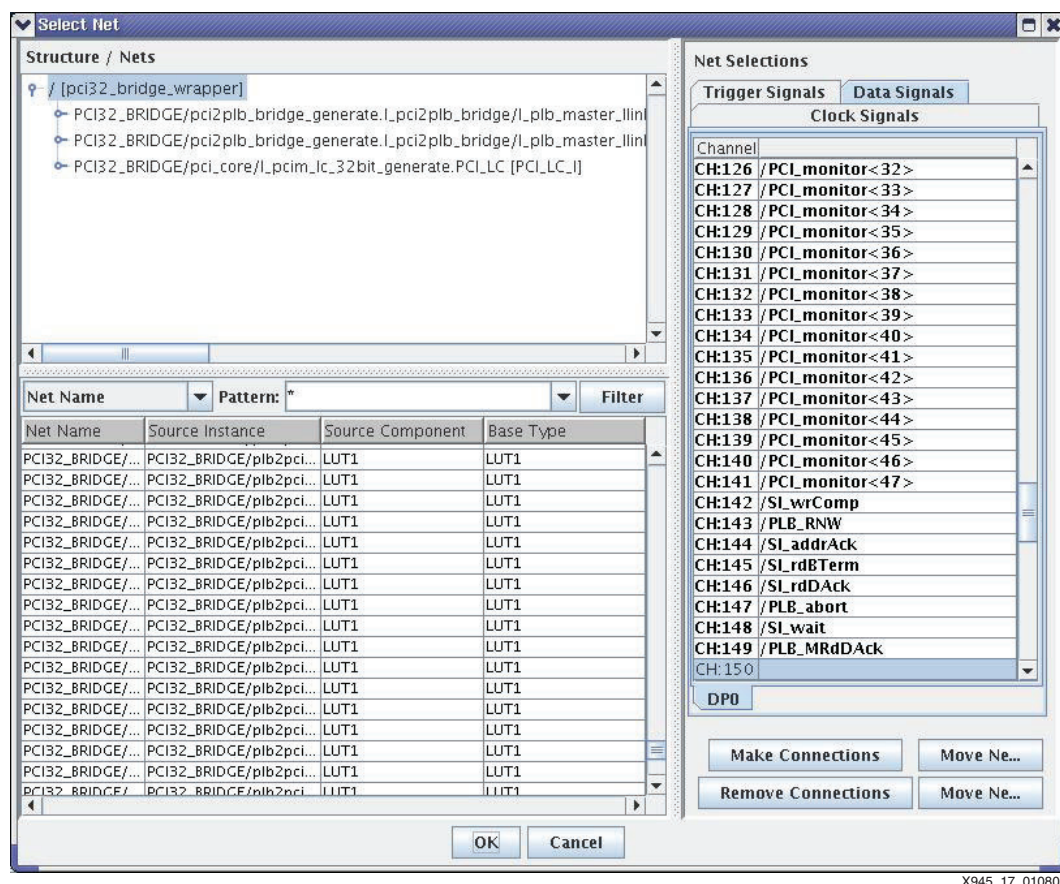

Figure 17: Making Net Connections in ChipScope Inserter
5. The GUI for making net connections are shown in Figure 17. Click **Next** four times to move to the Modify Connections window. The nets from plb_pci_ccs.cdc are displayed.